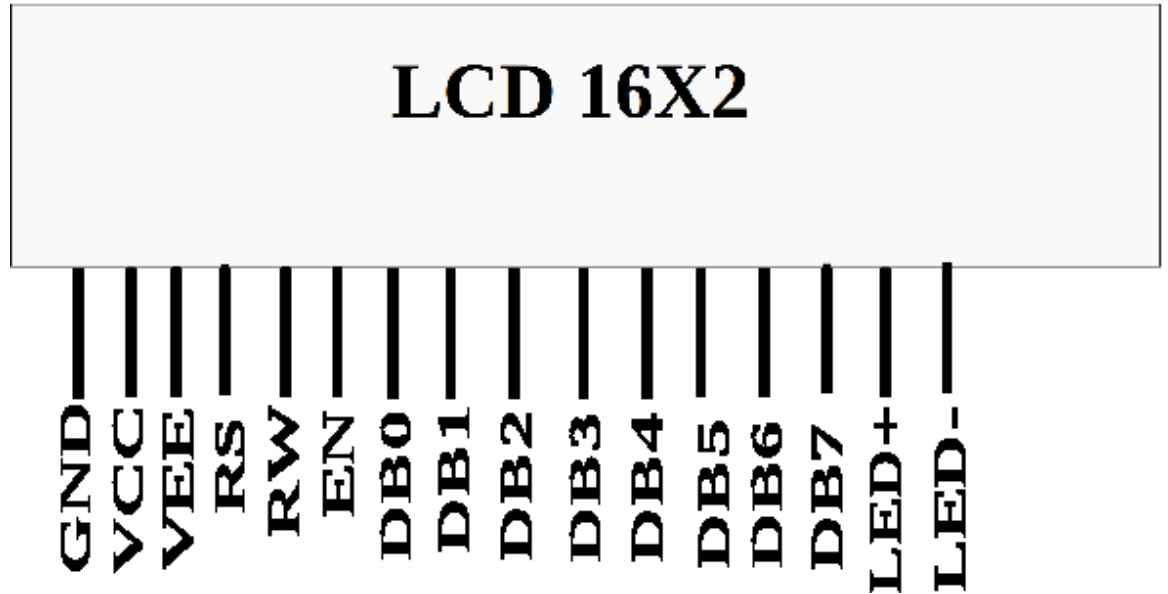

Figure 9.5.1.1: lcd
9.5.1. Plug the LCD in Fig. 9.5.1.1 to the breadboard.